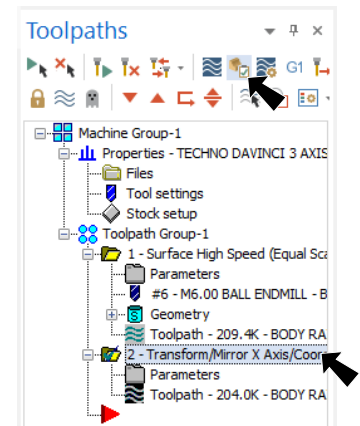

Fig. 28
Step 1. In Toolpaths Manager, click the **Transform/Mirror** toolpath, **Fig. 28**.
Step 3. Click **Play**  (R) in playback bar.